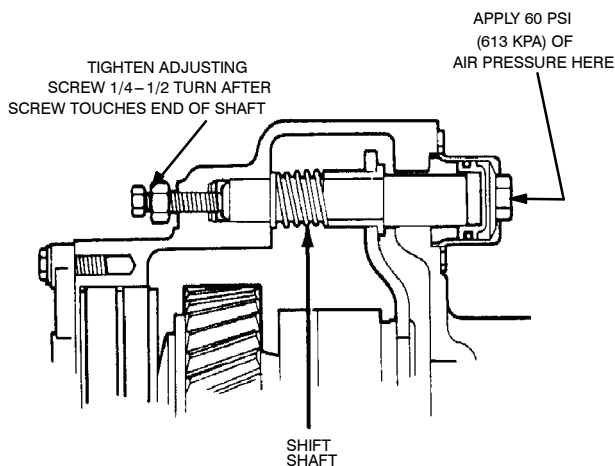

Figure 107.
- (c) Tighten the adjusting screw until the tip of the screw touches the end of the shift shaft. When the screw touches the shaft, tighten the adjusting screw an additional 1/4–1/2 turn. Figure 107.